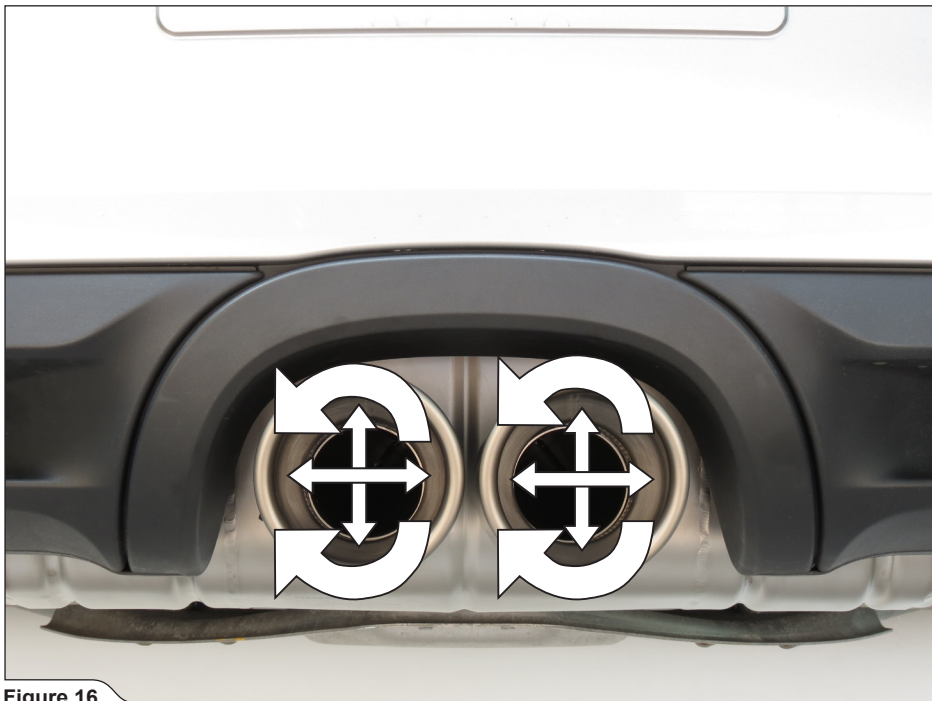

Figure 16
9. Slide the tail-pipes onto the muffler outlets. Rotate and center them in respect to rear bumper and according to your personal taste (**Figure 16**).